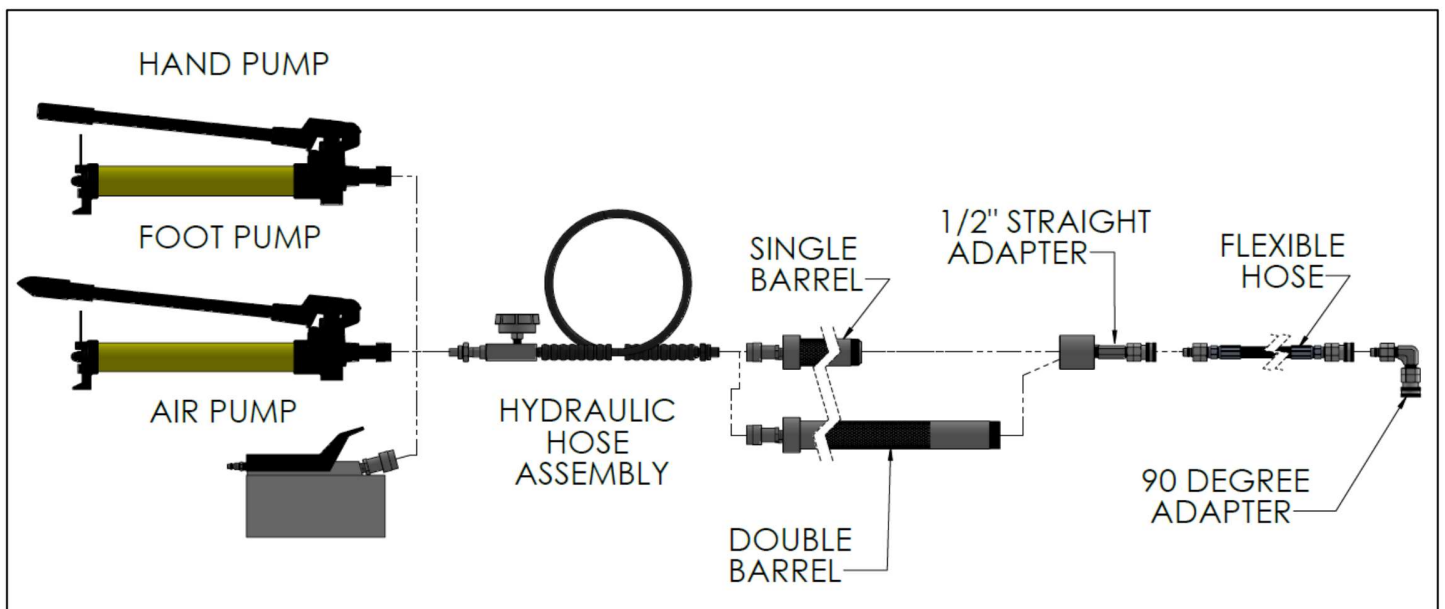

Figure 5
PLIDCO offers standard and long barrel hydraulic sealant pumps. There are three different pump variations you could choose from: Hand pump, foot pump, and air pump. They all utilize standard hydraulic fittings and are interchangeable between units. Figure 5 shows the different variations on the pumps. All units come in a Pelican® case for storage between uses.
- 2.) To insert sealant into a sealant barrel, make sure the piston is at the bottom of the barrel. Figure 5 shows how to push the piston into the barrel. The connected hydraulic pump needs to be in the release position to allow oil to flow back into the pump. The piston is a very tight fit. A hammer may be needed to drive the piston back. If the supplied piston plunger is lost, a piece of pipe or handle of a hammer may be used to drive the piston back.